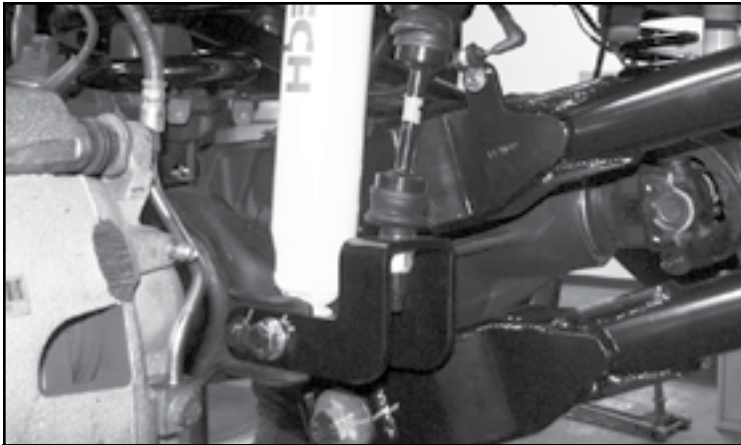

FIGURE 23 - STEP 26
26. Re-install the bracket using the supplied 7/16" x 1-1/4" & M14-2.0 X 100mm hardware with the new front shocks FTS800382 or FTS810382. **SEE FIGURE 23. NOTE: Install a supplied 9/16" washer at the lower mount to fill up the gap between the bushing and mount.** Install the sway bar end link to the new axle bracket at this time. Torque 7/16" hardware to 59 ft-lbs, factory to 127 ft-lbs, and sway bar end links to 52 ft-lbs.